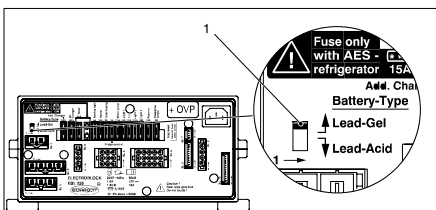

Fig. 1 Battery selector switch
- Ensure that the battery selector switch (Fig. 1, Pos. 1) is set to the correct position for the inserted battery.
- Set the battery selector switch (Fig. 1, Pos. 1) to the correct position using a thin object (such as a ballpoint pen):